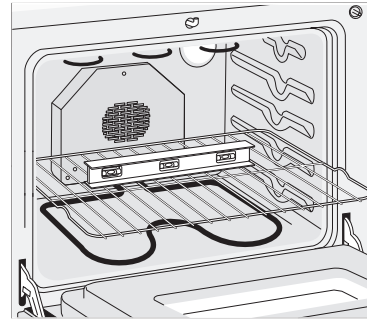

Figure 10
3. Check if the range is level by installing an oven rack in the center of the oven and placing a level on the rack (Figure 10)